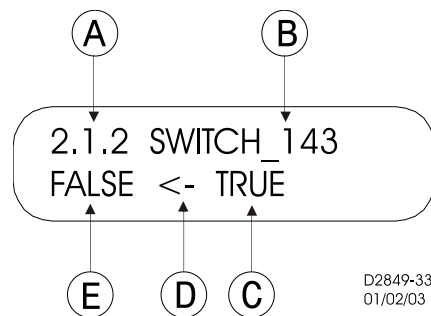

Figure 10-11. Virtual Control Switch 143 Screen
Table 10-3 describes each of the call-outs shown on Figure 10-11. The user-programmable label for this switch is SWITCH_143. The TRUE (closed) state label has been set to TRUE. In addition, the FALSE (open) state label has been set to FALSE. The logical mode for this application would be set to Mode 2 (On/Off switch).
D	An arrow icon indicates the current switch position (status). In Figure 10-11, the status is open (0), which is labeled 'FALSE'.